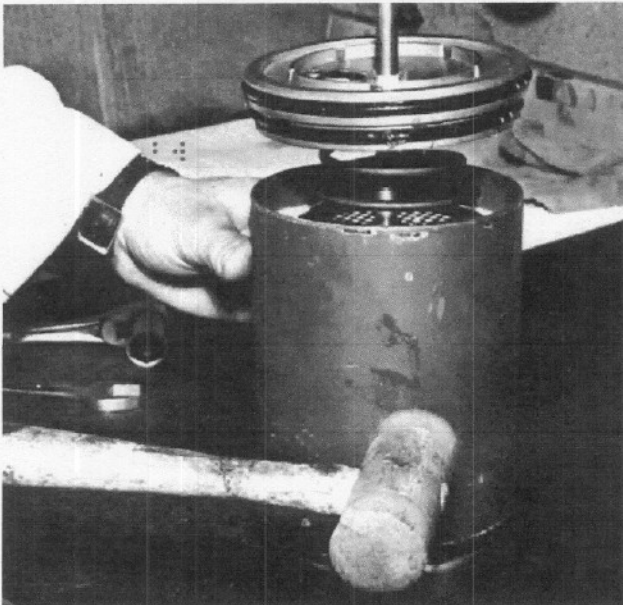
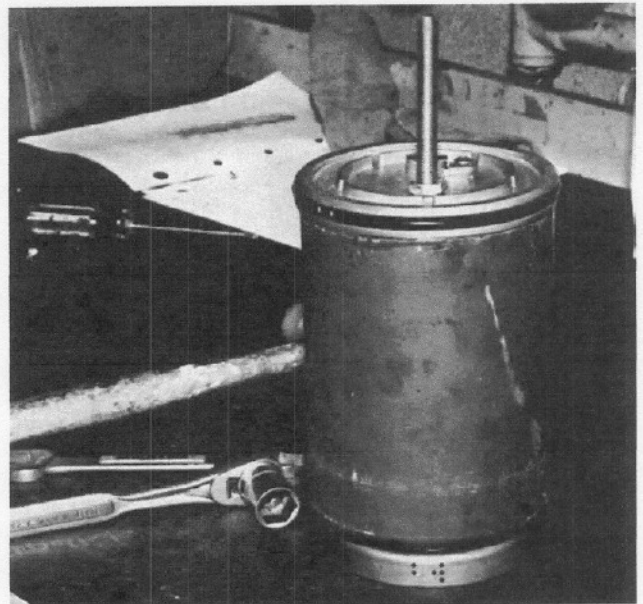

FIGURE 14
FIGURE 15-1
2. Install the previously rebuilt desiccant sealing plate on the cartridge bolt so that the ball check retaining clip remains visible (see Figure 15-1 & 15-2).
12. Using the lock nut draw the assembly together to approximately half of the spring's free height. While slowly turning the cartridge, tap the side of the shell with a plastic mallet (See Figure 14). This allows the desiccant material to settle properly into place. Continue to tighten the nut, making sure all items are properly aligned. Tighten nut firmly using an 11/16" socket or box wrench. (See Figures 15-1, 15-2)